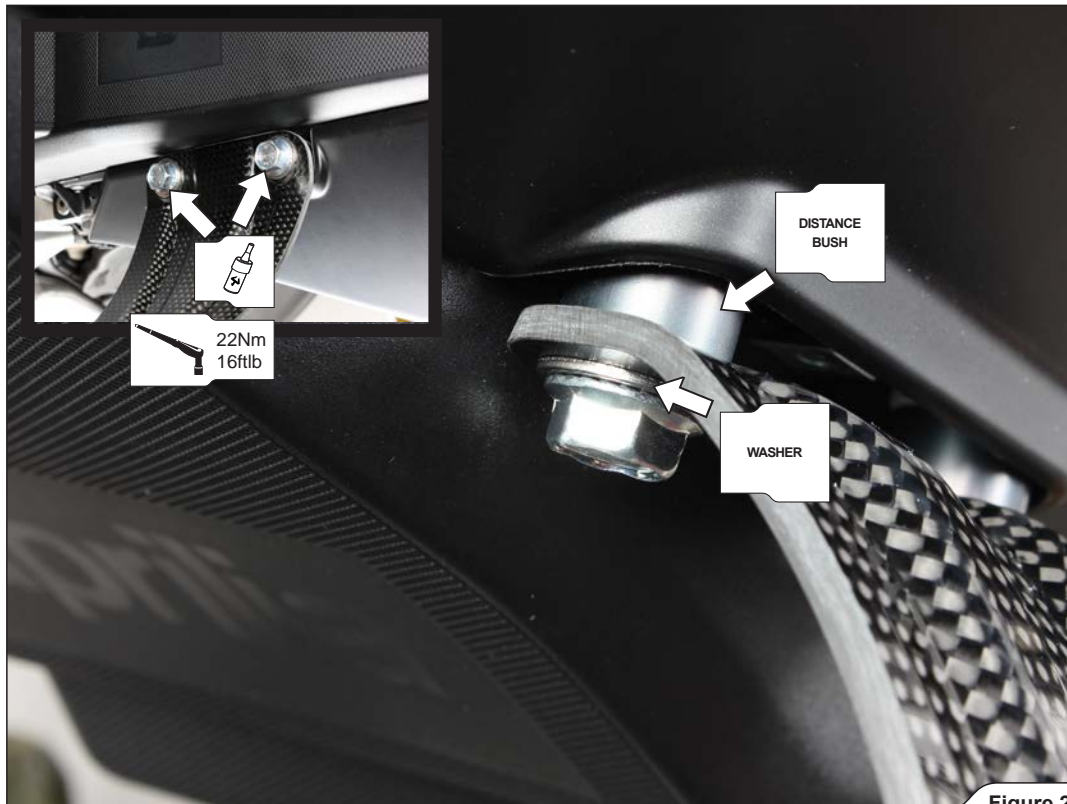

Figure 29
12. Install the Carbon Fiber Bracket onto the right side of the sub frame, using bolts, washers and Aluminium distance bushes from Akrapovič installation kit (**Figure 29**).